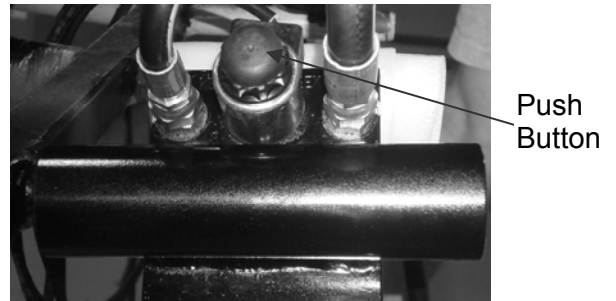

Figure 5-4. Push “Button” Lowering Valve
- With the boom in the “stowed” position, press (push) in and hold the emergency lowering valve “button” on the lift cylinder to relieve all hydraulic pressure to the cylinder. Refer to Figure 5-4.